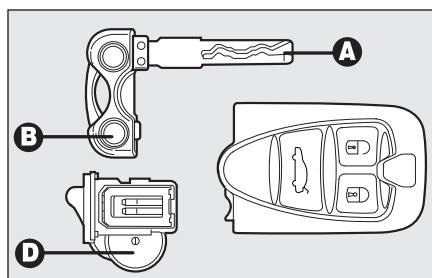

fig. 9
To change the battery **fig. 9** proceed as follows:
- ☐ remove the battery **D-fig. 9** from the case taking note of the bias (in the figure the positive pole is facing downwards);